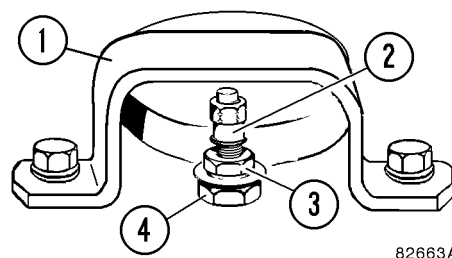

FIGURE 2-2. CHARGING VALVE INSTALLATION
3. Discharge nitrogen pressure from the suspension by removing charging valve guard (1, Figure 2-2) and charging valve cover (2). Turn charging valve swivel nut (small hex) (3) counterclockwise three full turns to unseat the valve seal. DO NOT turn more than three turns. DO NOT turn the large hex. Wearing a face mask or goggles, depress the valve stem until all nitrogen pressure has been relieved.